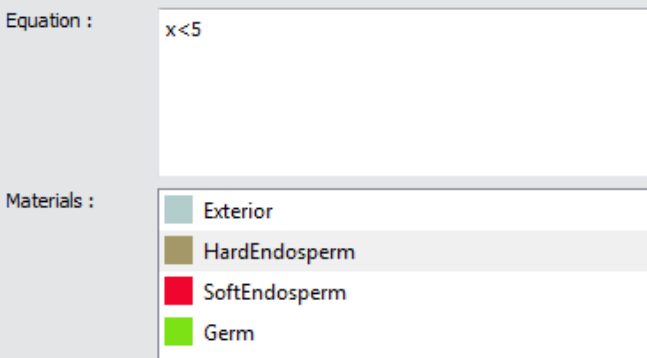

Figure 20.27: Equation Mode
- *Equation*: The equation mode lets you select any element of a given material based on a given equation (Figure 20.27). The vertex components are accessed through X, Y, and Z variables. A triangle is selected if all three vertex positions match the equation condition. For example, the "x < 5" will select all triangles in which the X component of all three vertices is less than 5.